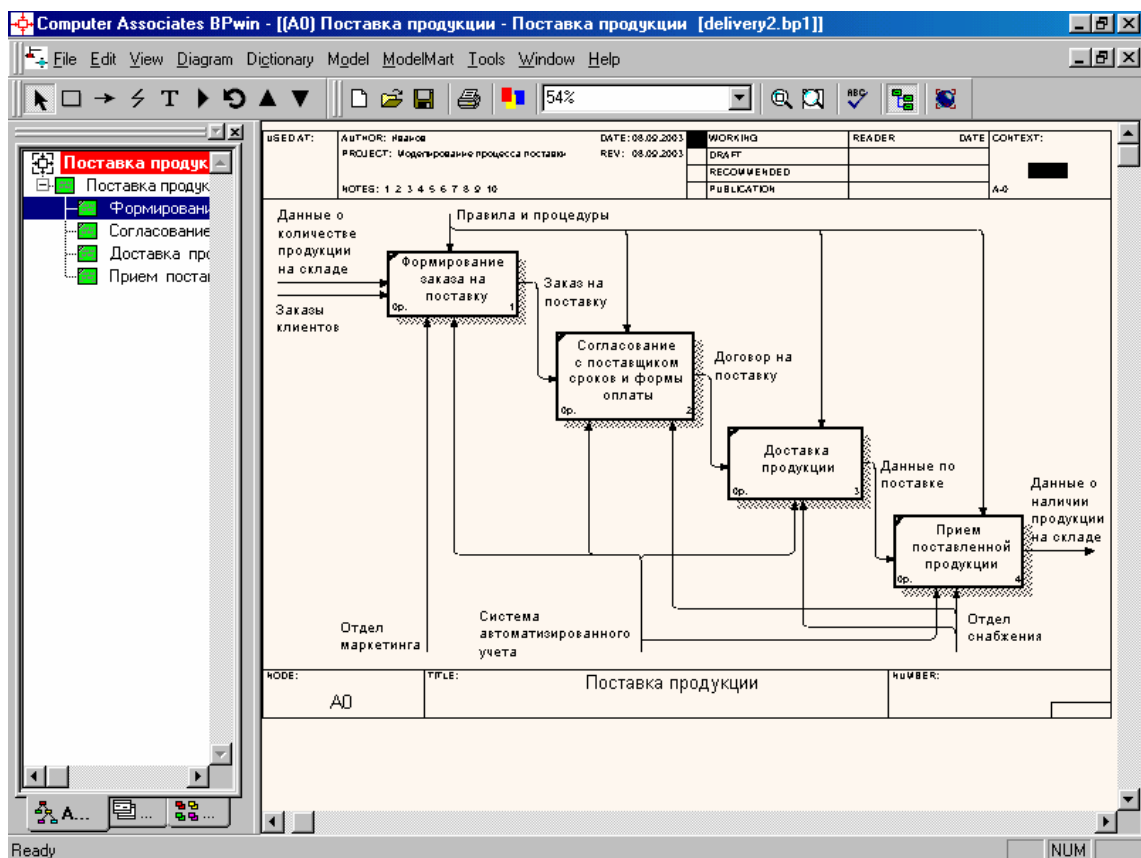

Figure 1.9
5. Connect the boundary arrows and draw the inner arrows on the diagram. for internal arrows enter names as shown in Figure1.9.